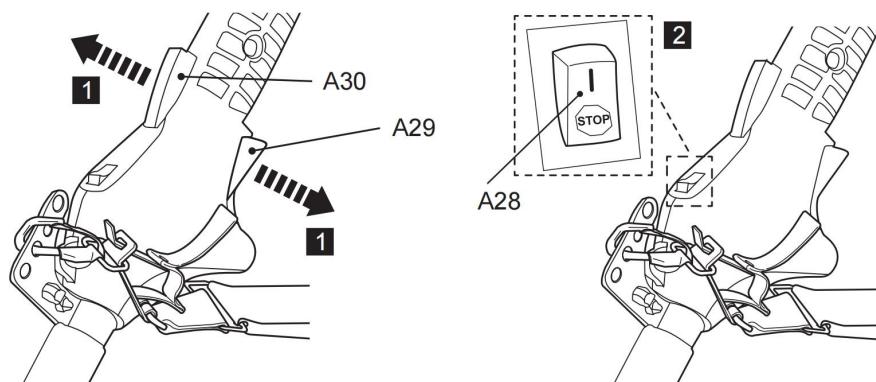

Fig. 42
2. Set the ignition switch (A28) to position “STOP” (Fig. 42).